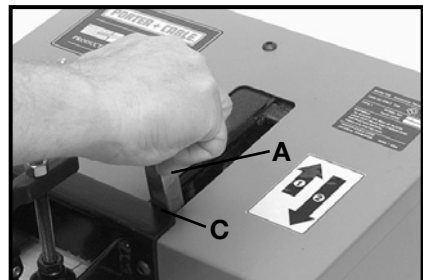

Fig. 22
6. Pull lever back (in direction of arrow #2) until it contacts rear stop (C) Fig. 22.